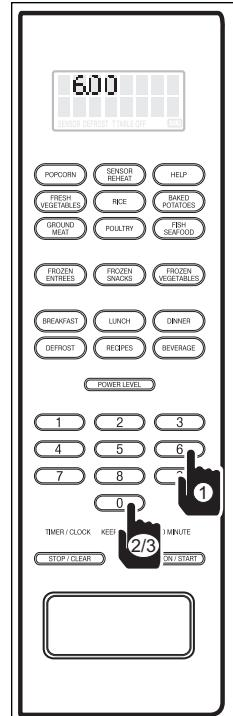

Figure 3-44.
3. Enter desired cooking time duration. For example: 6 minutes; press the number 6 key, then the number 0 key twice (See Figure 3-44), and the display will flash "6.00 - PRESS START - OR PRESS - POWER LEVEL".